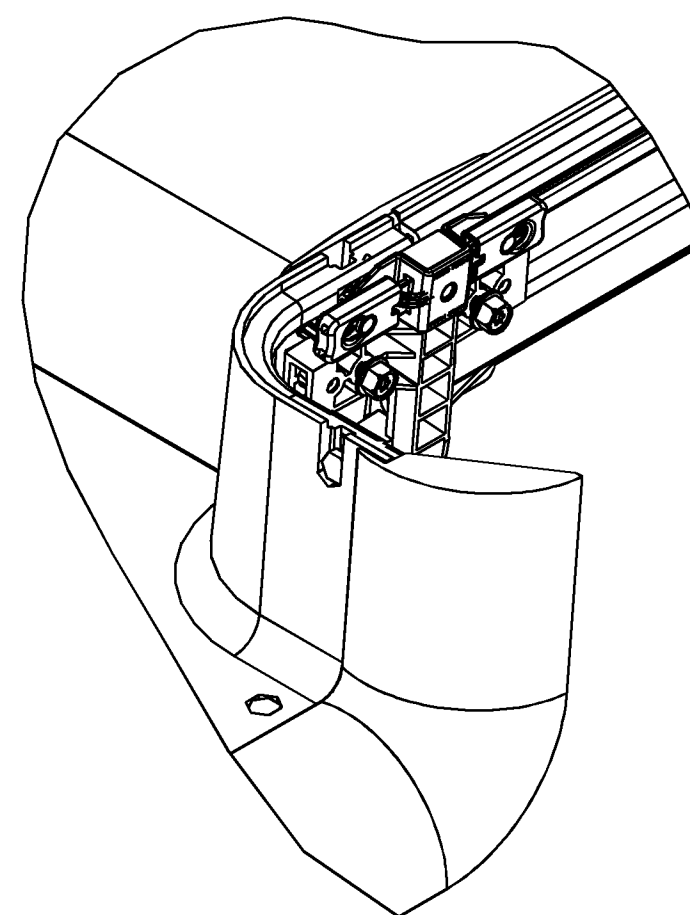

FIGURE 2
2. SLIDE ONE EXIT OF THE TEE KIT INTO JUNCTION UNTIL FIRMLY SEATED AGAINST THE CENTER RIB. (SEE FIGURE 2).
- 3 ENSURE LOCKING PINS ON SNAP CONNECTOR ARE ENGAGED IN HOLES IN TEE. (SEE FIGURE 2). ONLY APPLICABLE WITH ADC PART FGS-ISLAND-F.
6. TIGHTEN THE (16) JUNCTION SCREWS SUCH THAT THE WASHER HEAD ON THE SCREW IS APPROXIMATELY 1/16" (1.6MM) FROM THE JUNCTION SUPPORT ARM. (SEE DETAIL A). AFTER ALL SCREWS HAVE BEEN TIGHTENED IN THIS MANNER, TIGHTEN ALL SCREWS UNTIL THE WASHER HEAD BOTTOMS OUT.